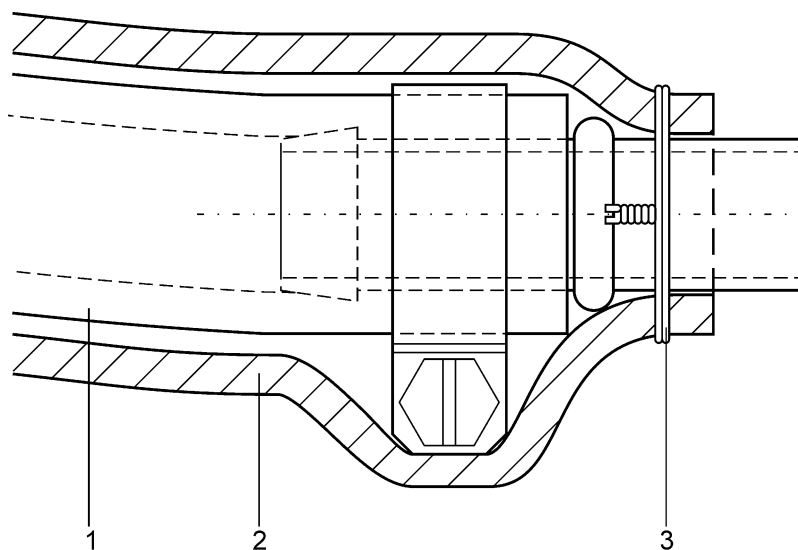

Fig. 1 – Installation of the PYROJACKET PJA 14 protective sleeve
- 1.3.4 Cut the cable ties securing the oil system hoses to the other components. Remove the original rubber protective covers against abrasion. Remove the ends of the oil system hoses (1, Fig. 1) from the more accessible sides or remove the hoses completely - all determined by the accessibility of the dismantling point itself. Take extra care when working with the oil system hoses due to residual oil inside the hoses.
- 1.3.6 Determine the length of the PYROJACKET protective sleeve (2) in accordance with the length of each individual oil system hose. Add the necessary allowance to the length of the PYROJACKET protective sleeve (2) to allow the fittings to be attached
to both ends of the oil system hose (Fig. 1). The version of the oil system with a thermostat requires 5 pieces of PYROJACKET protective sleeves (2), the version of the oil system without a thermostat requires a total of 3 pieces of PYROJACKET protective sleeves (2).
- 1.3.7 Slide the PYROJACKET protective sleeves (2) onto the oil system hoses (1).
Legend to Fig. 1